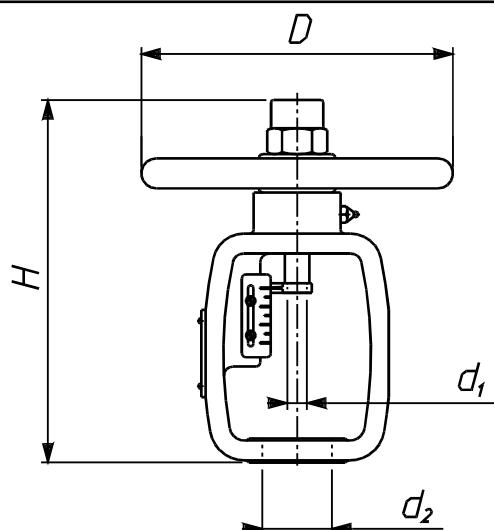

Fig. 10. Manual drive type 20.
**Manual:** - manual drive type 20, Fig. 10 Table 25.